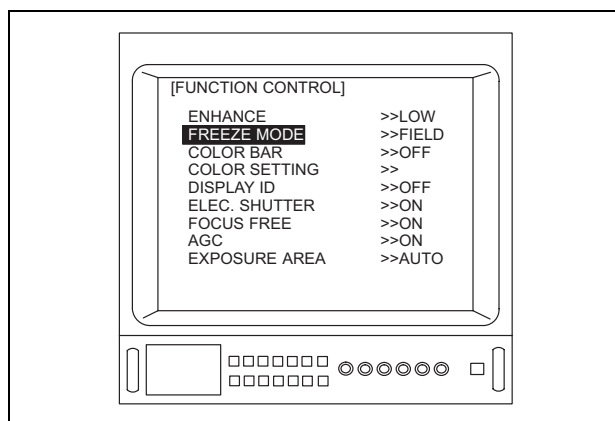

Figure 5.68
5. Depress the menu switch “←” or the “Enter” key on the keyboard to adjust the “FREEZE MODE” (see Figure 5.68).